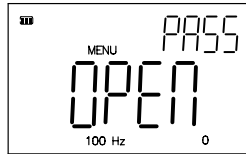

Figure 4-3 Open correction Passed
- When correction measurement is finished, PASS or FAIL will be displayed on the screen, see Figure 4-3